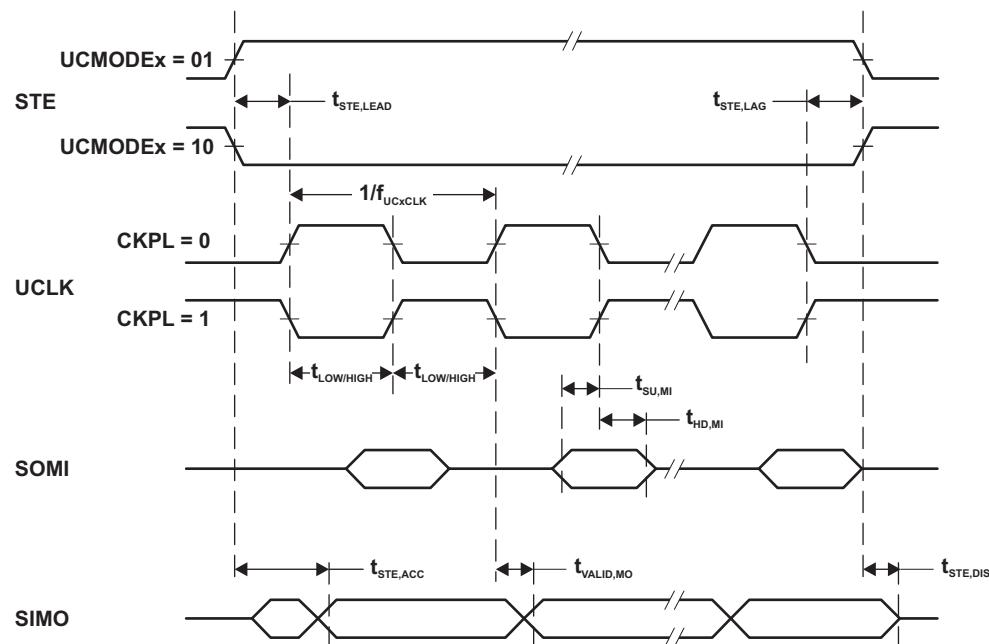
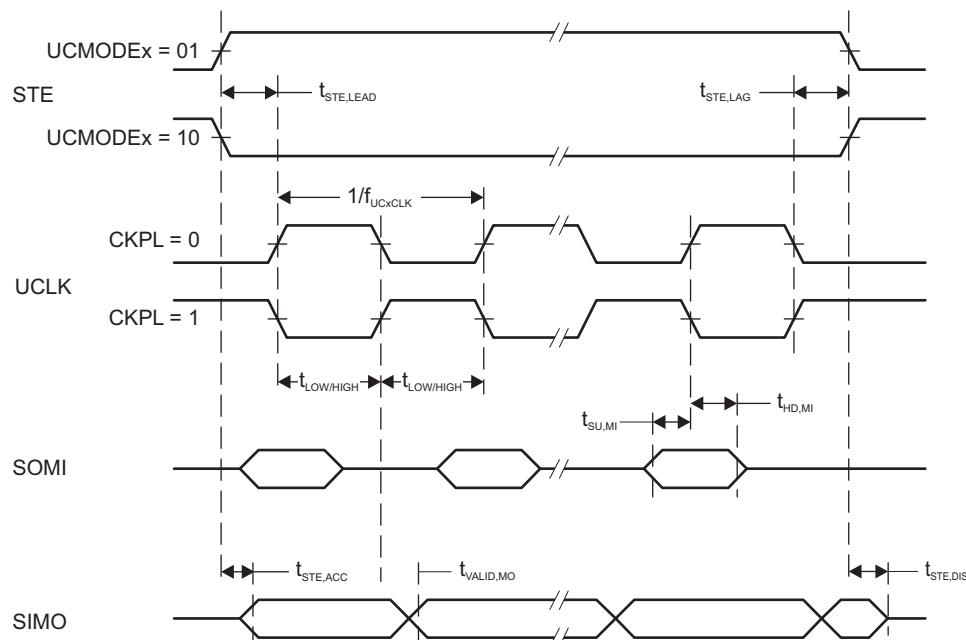

Figure 5-13. BadDriveBacuSPI Master Mode, CKPH = 0
Figure 5-14. SPI Master Mode, CKPH = 1
(2) Specifies the time to drive the next valid data to the SIMO output after the output changing UCLK clock edge. See the timing diagrams in Figure 5-13 and Figure 5-14.
(3) Specifies how long data on the SIMO output is valid after the output changing UCLK clock edge. Negative values indicate that the data on the SIMO output can become invalid before the output changing clock edge observed on UCLK. See the timing diagrams in Figure 5-13 and Figure 5-14.
(2) Specifies the time to drive the next valid data to the SOMI output after the output changing UCLK clock edge. Refer to the timing diagrams in Figure 5-13 and Figure 5-14.